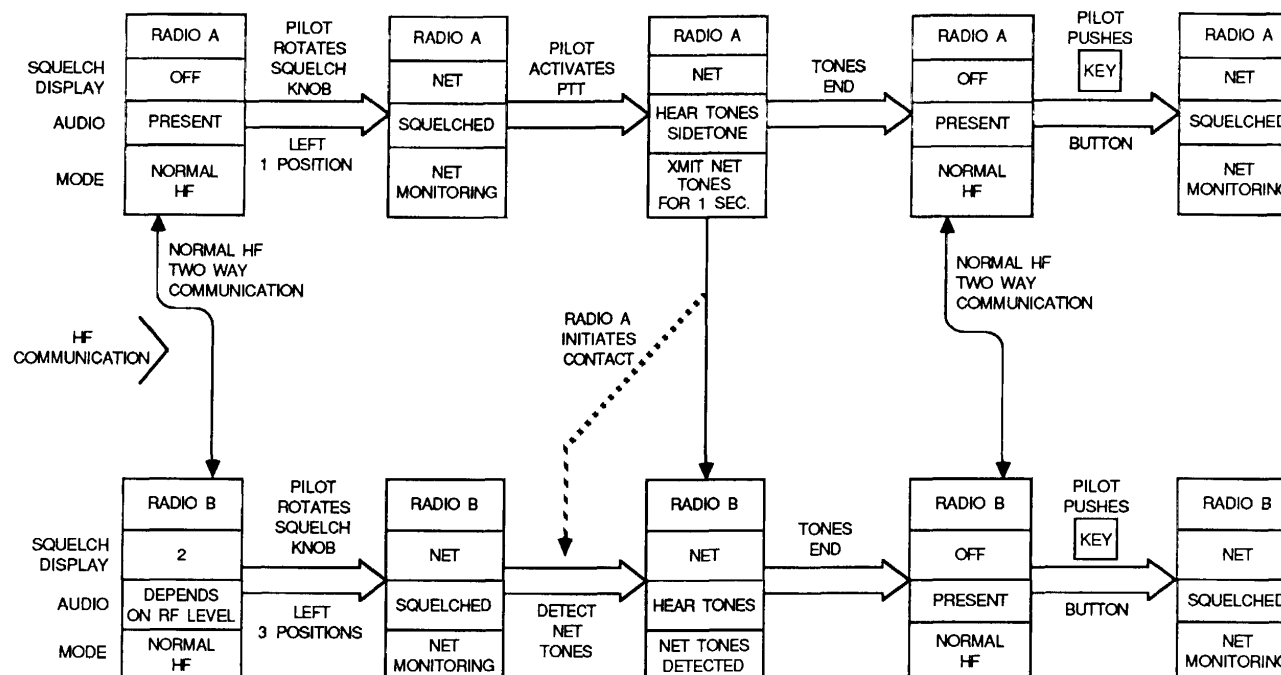

Figure 2-30. NET Mode Operation Diagram
- (3) **NET Mode.** The NET mode is identical to the SELADR receive mode (reference paragraph i.1) in all respects except one. The tone code which is transmitted and monitored for in the NET feature is a dedicated code and not user selectable. This decreases operator time and attention required to reliably use the NET communication mode. NET mode operation is illustrated in figure 2-30.